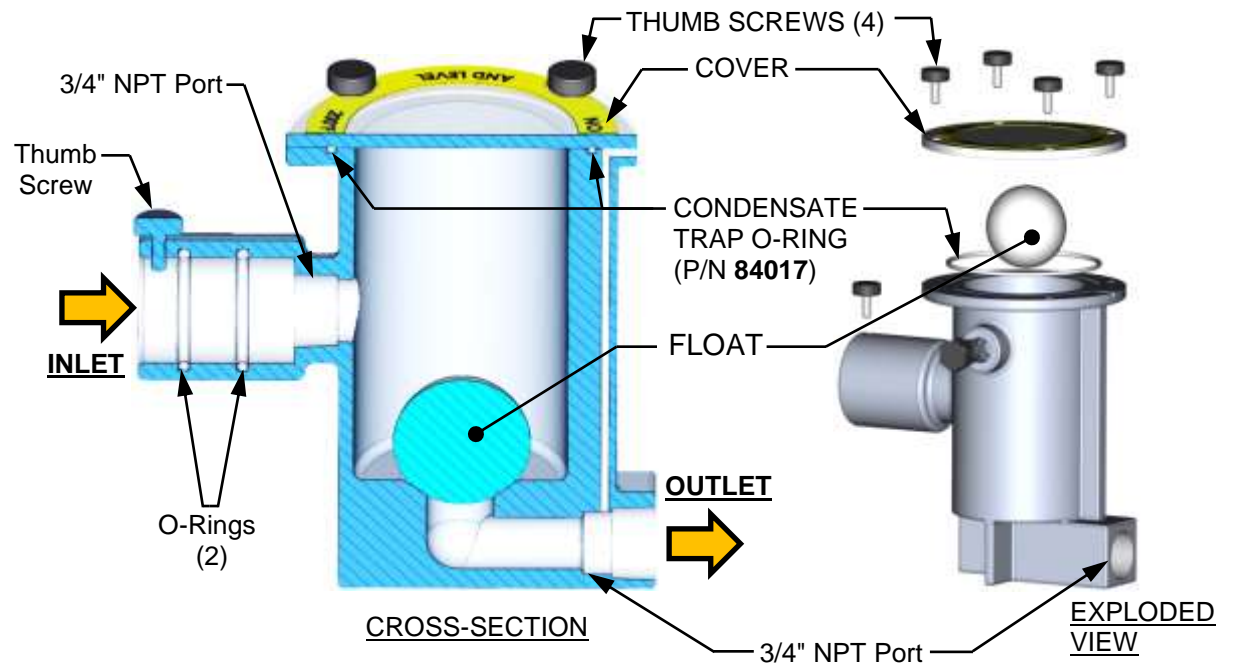

Figure 4-10: External Condensate Trap – Cross-Section & Exploded View
1. Disconnect the external condensate trap by loosening and then removing connections on the inlet and outlet sides of the condensate trap (see Figure 4-10).
2. Loosen the four (4) thumbscrews securing the trap’s cover and then remove the cover and the O-ring from under the cover.